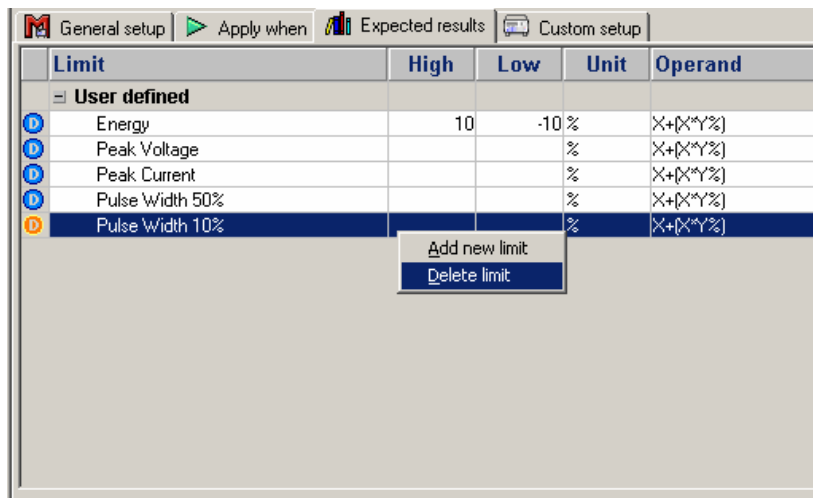

Figure 36. Add or Delete Limits Pop-up Menu
6. To add or delete limits, right click one of the rows of the **Expected results** page and select from the pop-up menu, as shown in Figure 36.